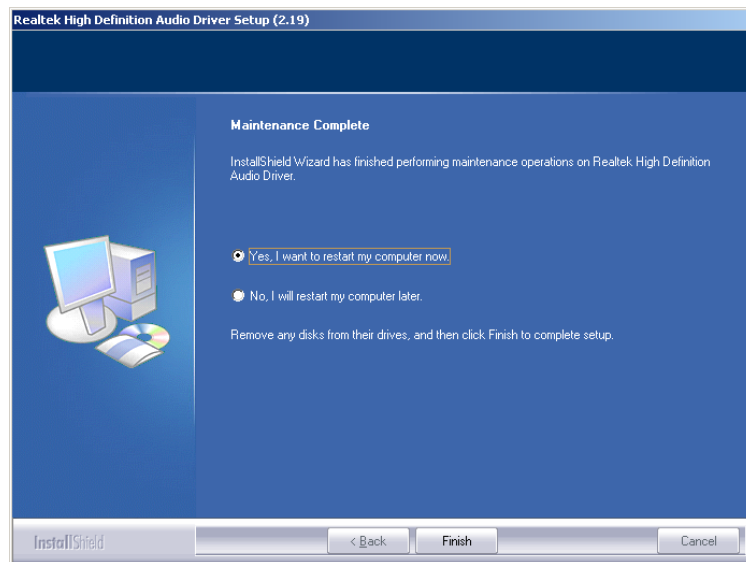

Figure 7-39: Restart the Computer
Step 10: After the driver installation process is complete, a confirmation screen appears (Figure 7-39).